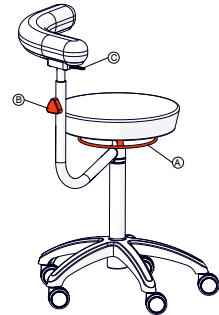

Fig.19
- Pull up the lever **A** (Fig.19).
- Move the lever **C** (Fig.19) and turn the s.arm.